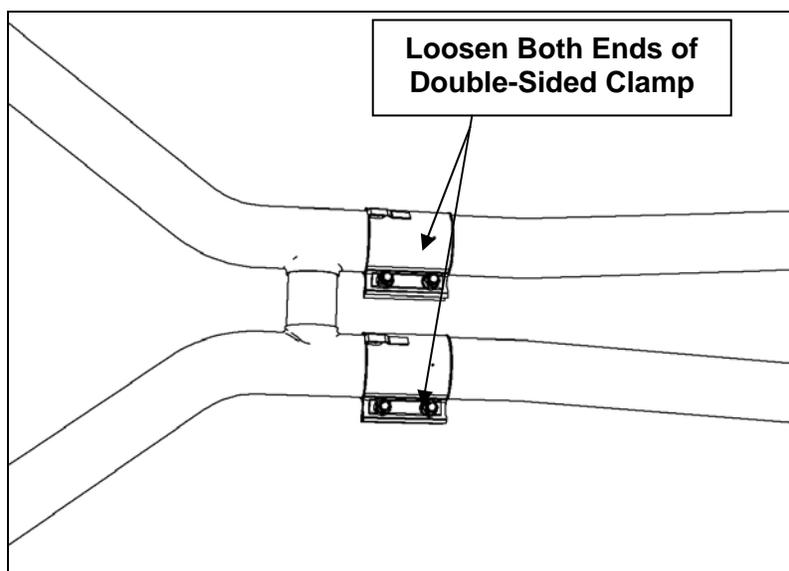

Figure 2
2. Loosen both ends of the doubled-sided clamps, which hold the midpipes in place. Refer to Figure 2. These clamps are located after the H-pipe.